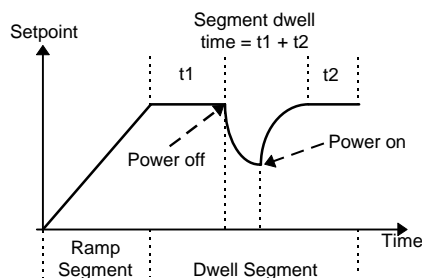
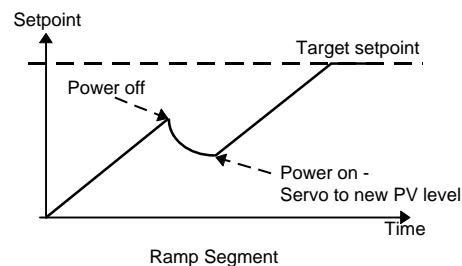

Figure 5-2 Continue after a power fail
Figure 5-3 Ramp back after a power fail
**If 'rmp.b' is selected**, then when power is restored the setpoint starts at ('servos to') the current measured value, and then ramps to the target setpoint of the active segment at the last ramp rate used by the program. This strategy provides a smoother recovery. The two diagrams below illustrate the respective responses, Fig 5-2 if power fails during a dwell segment and Fig 5-3 if it fails during a ramp segment.